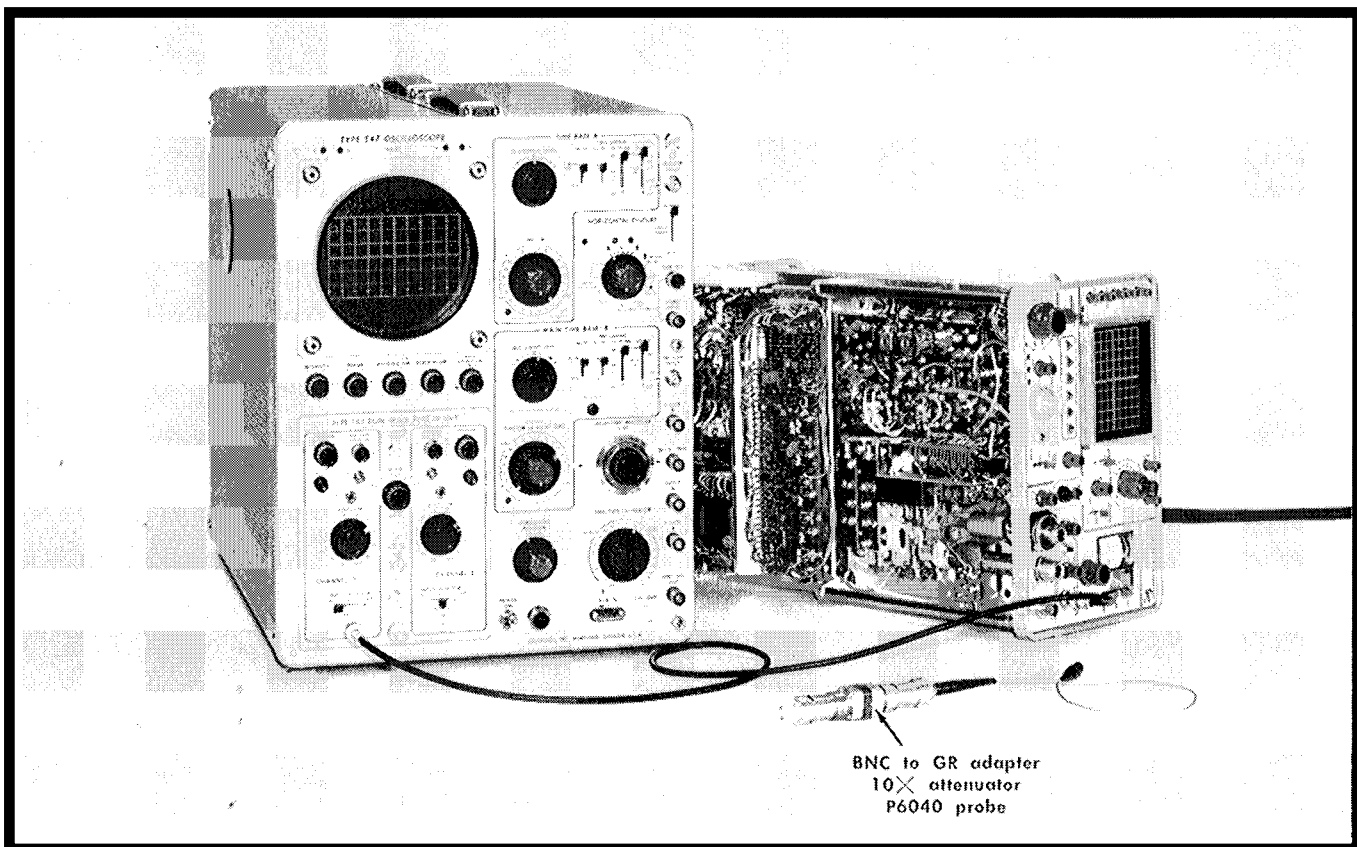

Fig. 6-32. Test equipment setup to check or adjust the phase lock circuit.
- Equipment setup is given in Fig. 6-32.
b. Apply the output from the 1 MHz MARKERS OUT signal through a 10× attenuator to J120 on the honeycomb assembly as follows: Connect a GR to Sealectro adapter (such as a P6040 probe cable), a GR to BNC adapter and a 20 dB attenuator, (see Fig. 6-32) between the 1 MHz MARKERS OUT connector and J120. Disconnect the Sealectro connector from J120.